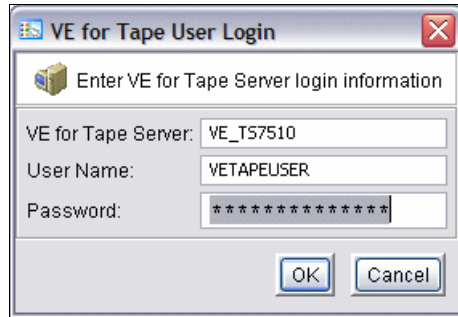

Figure 5-24 Add connection to IBM TapeSystem Virtualization Engine for Tape Console
3. Log in using the default user name and password that was provided by your system installer, as shown in Figure 5-24.